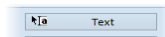

**Figure 200 – Assigning a label to the measurement**
2. An edit box is then displayed near the measurement (see Figure 200). To speed up the entry of the most frequently used labels, a combo box is available containing up to 20 of the most recently used labels (sorted chronologically) for